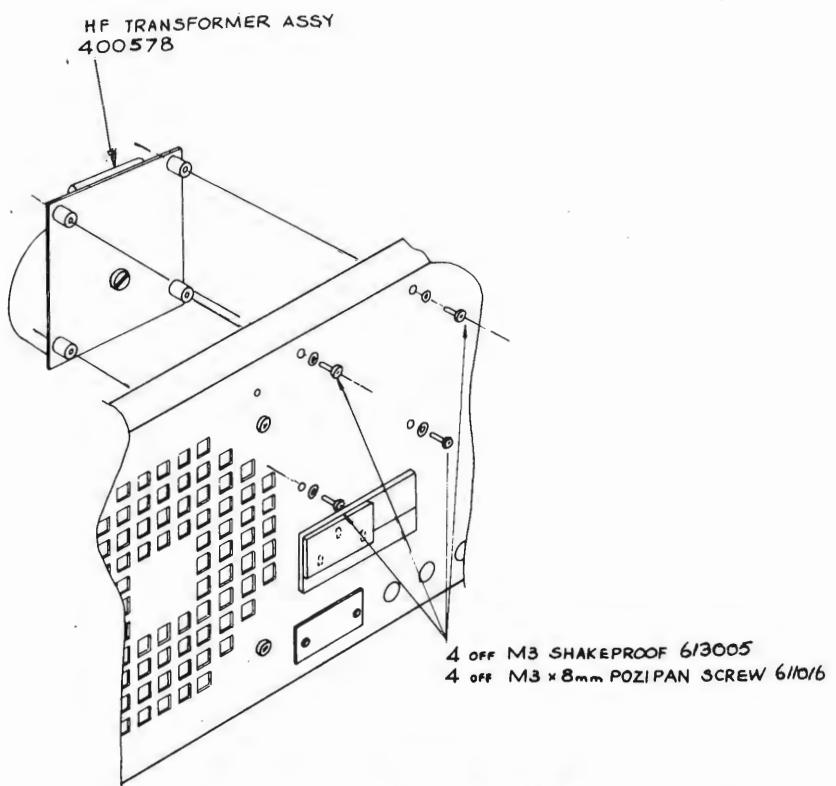

FIG. 3.1 HF TRANSFORMER
- a. Remove four M3 x 8mm pozipan screws (see Fig. 3.1).
Reverse removal procedure, referring to Fig. 3.1.